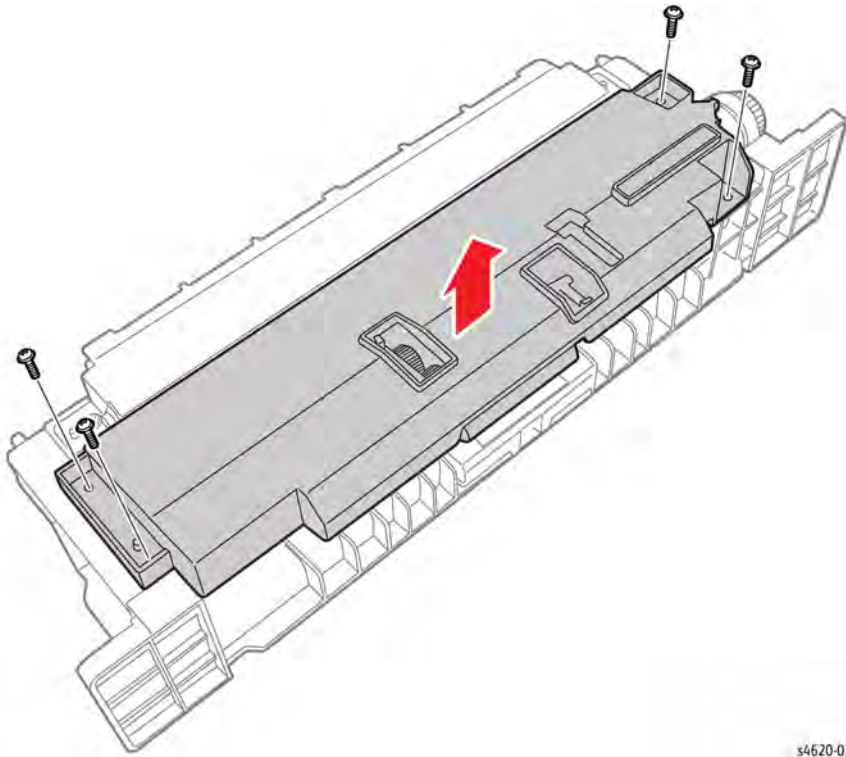

Figure 1 Remove the Feeder Assembly top screws
11. Remove 4 screws (plastic) that secure the top of the Feeder Assembly, Figure 1.